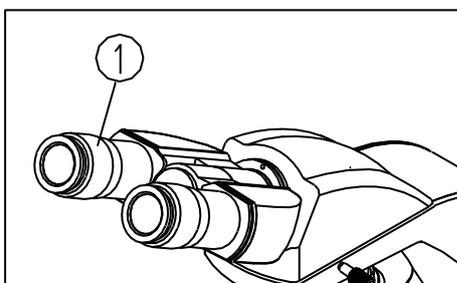

Fig.19
3.3.7 Adjusting the Diopter (Fig.19)